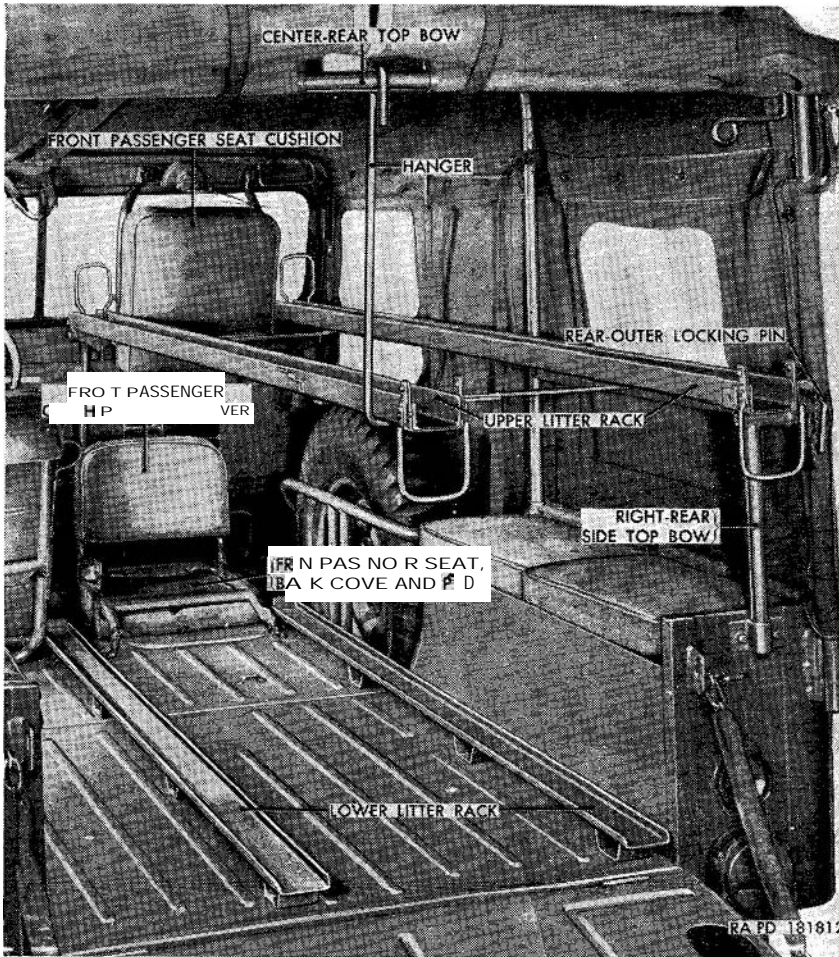
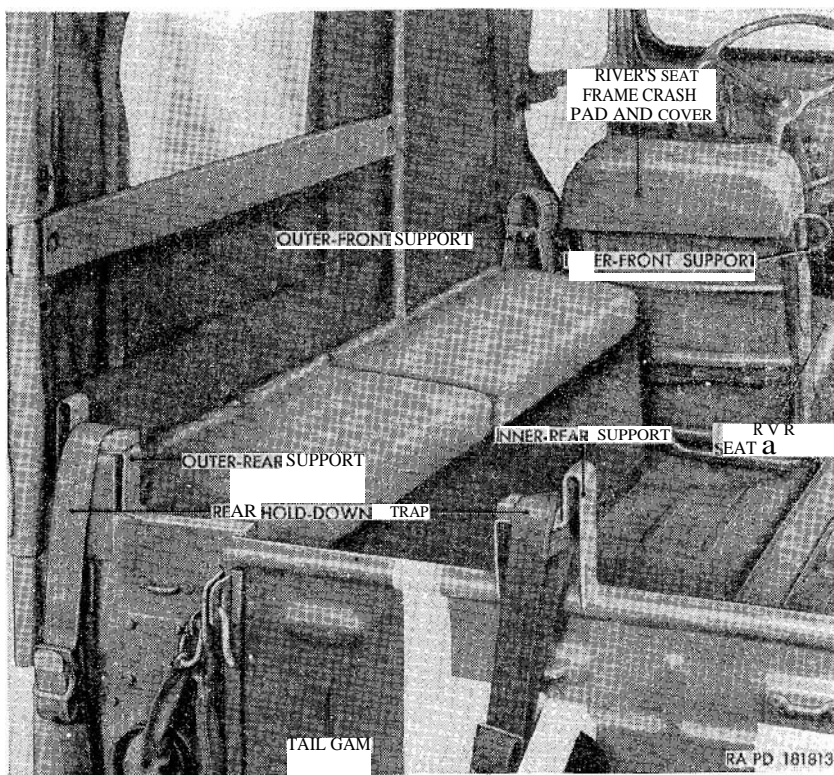
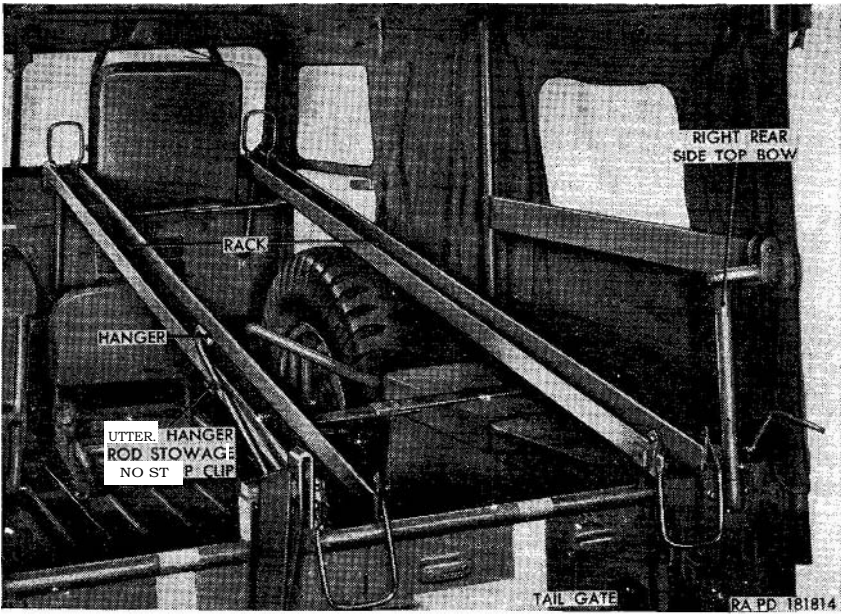

Figure 18. Lower and upper litter racks (M170)—installed.
Figure 19. Auxiliary litter supports (M170).
Figure 20. Upper litter rack (11170)—lowered position.
*a. General.* The lower litter rack (*fig. 18*) is secured to the floor on the right side of the body. The upper litter rack (*fig. 18*), a removable folding-type, is suspended by a hanger, supports, and retainers above the right wheel house. An auxiliary litter may be mounted above the left wheel house if desired. This auxiliary litter is mounted by supports (*fig. 19*) on the driver's seat, left wheel house, and tailgate. Two rear holddown straps are provided to tie down the rear of the auxiliary litter.
*b. Lowering Upper Litter Rack.* Withdraw the rear-outer locking pin (*fig. 18*) from the retainer on the upper litter rack and the support on the right-rear side top bow. Lift the upper litter rack hanger off the center-rear top bow and push hanger forward until it is engaged in the litter hanger rod stowage and stop clip (*fig. 20*). Slide the rack toward the center of the vehicle until the rack clears the support on the right-rear side top bow. Lower the rack until the rear end rests on top of the tailgate.
c. *Raising Upper Litter Rack.* Lift the rear end of the rack from its lowered position on the tailgate (fig. 20) to horizontal position. Move the rack to the right until it rests on the support on the right-rear side top bow. Pull the hanger rod free of the litter hanger rod stowage and stop clip and hook the upper end of the hanger rod on the center-rear top bow. Lock the rack to the support on the right-
rear side top bow by inserting the upper litter rack rear-outer locking pin (fig. 18) through the retainer holes on the rack and the support holes of the bow.
*a. General.* The vehicle is equipped with a driver's seat, a front passenger seat, and four wheel house cushions that serve as seats for rear passengers. The rear of the driver's seat is equipped with the driver's seat frame crash pad and cover (fig. 19) for the patient's head protection when the auxiliary litter is being used. The driver's seat back can be folded forward to provide accessibility to the patients from the left side of the vehicle. The front passenger seat is so designed that it can be used either as a passenger seat or in crash pad
- (3) Unfasten the passenger seat stowage strap, secured to the front passenger seat cushion (fig. 18), from the upper litter front support. Unfasten the passenger seat stowage strap, secured to the footman loop on the instrument panel, from
- (1) Proceed as instructed in *d* (1) above.
- (2) Engage the front passenger seat frame pivot pins of the seat cushion (fig. 18) in the slots of the brackets mounted at the top of the windshield frame. Fasten the passenger seat stowage strap, secured to the seat cushion, to the upper litter front support. Secure the passenger seat stowage strap, fastened to the footman loop on instrument panel, to the frame of the seat cushion.
- (3) Proceed as instructed in *d* (3) above.